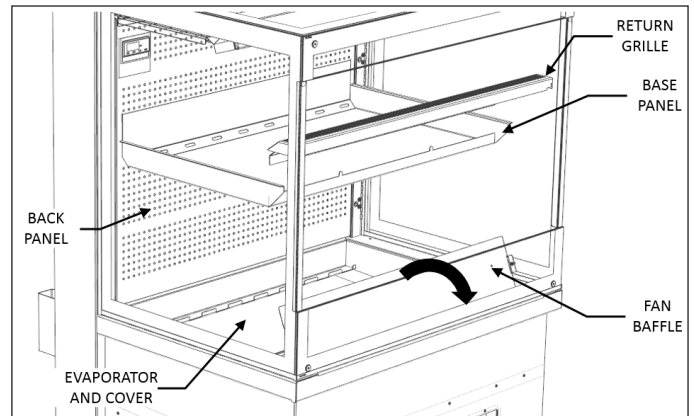

Figure 5 - Diagram showing access to the Evaporator
- (c) Remove the Base panels - see Figure 5.